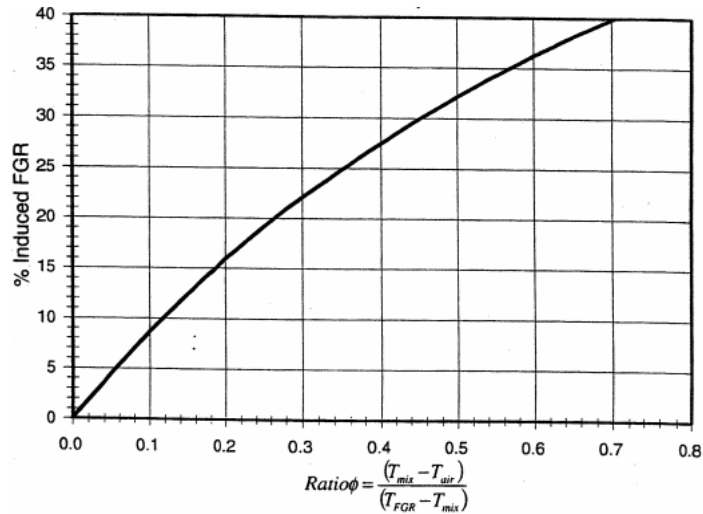

Figure 18: percent Induced FGR as function of Temperature Ratio
4.5.5 To simplify this calculation we have provided a graph (Figure 18) where the temperature ratio is plotted against the % IFGR. After calculating the temperature ratio and locating that value on the X-Axis, move vertically to the plotted curve then read the % IFGR value across the graph on the Y-Axis. Excess air (% O₂) in the stack or fuel type have very little effect on the calculated % IFGR. Software for this calculation can be provided by Power Flame through our Customer Service Department (620-421-0480 or CSD@powerflame.com).